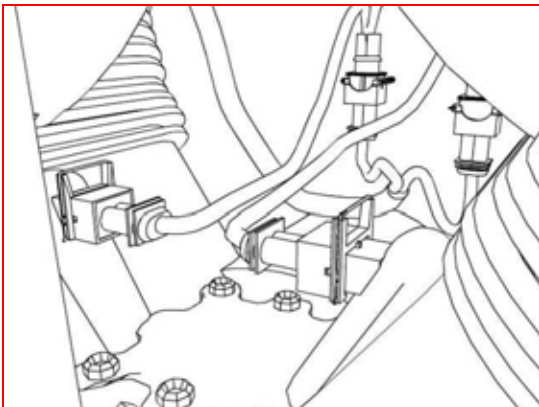

Fig 14
14. Feed the TFI injector connectors under the throttle body and connect them to their respective injectors. Install the horn. (See figure 14)